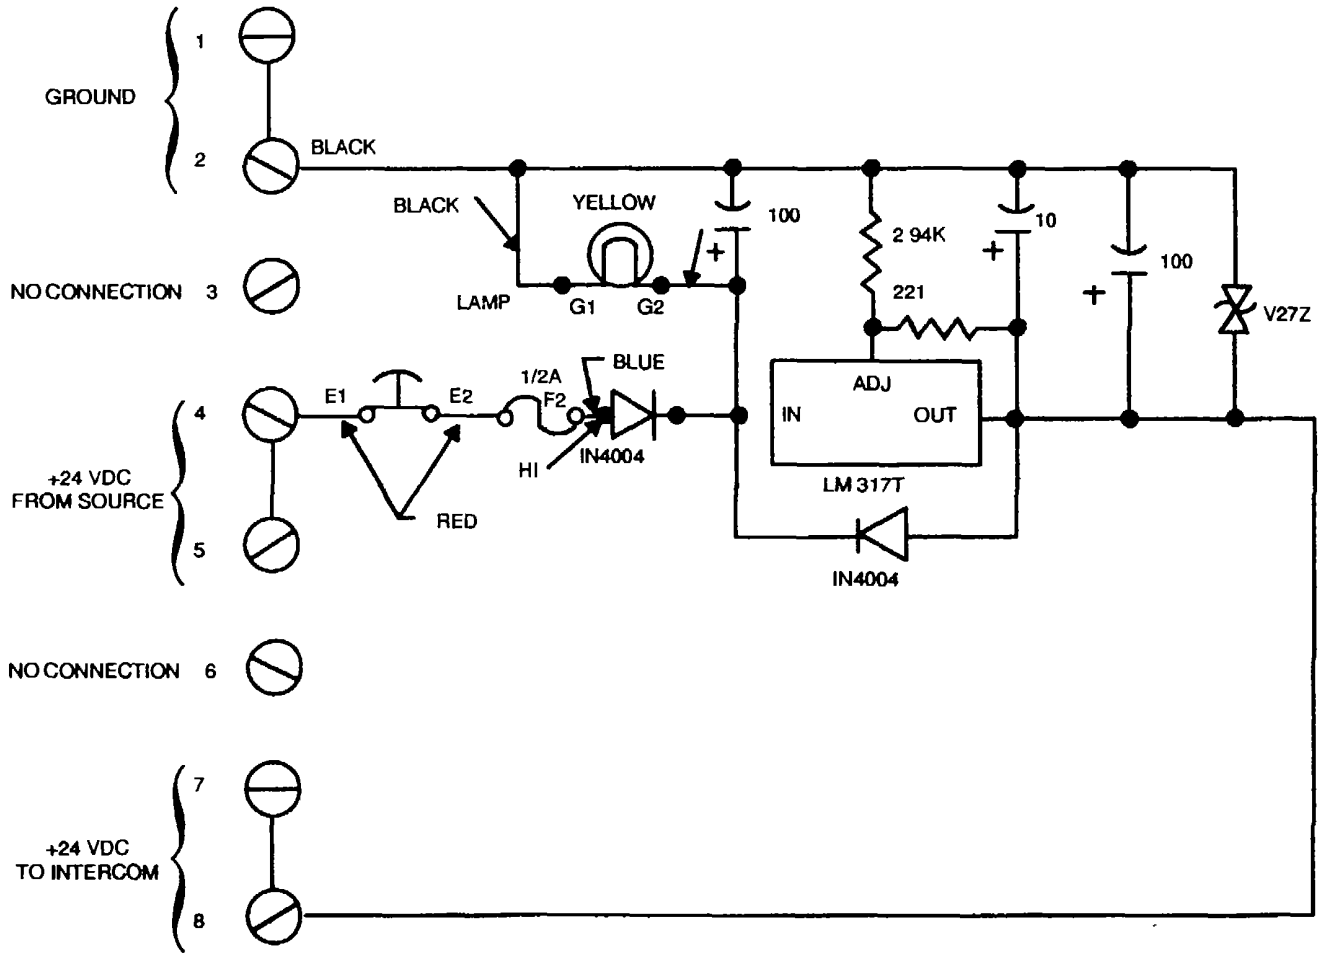

Figure 4-8. Schematic Diagram, Model M3116, Power Control Module
- a. With 24 Vdc circuit breaker 3P14 closed (ON), check for light on ON power control module. If lamp is not lit, check for faulty bulb. If bulb is ok, check voltage at Inputs to power control module between points TB1 and TB4 for 24 Vdc (see Figures 4-8 and 4-9). If voltage is not 24 Vdc, go to step b. If voltage is 24 Vdc, go to step d. If lamp is lit, go to step 1.